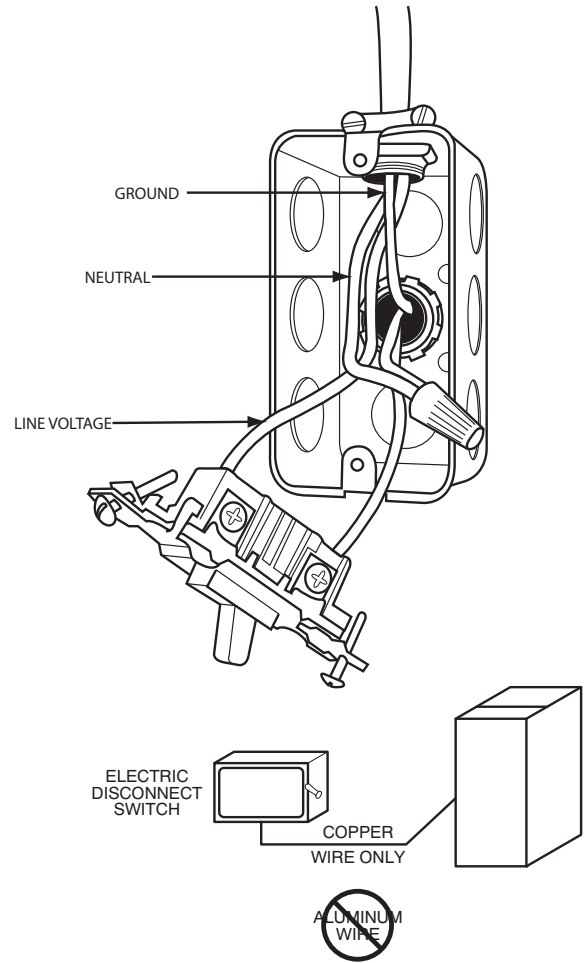

Fig. 34 - Field-Supplied Electrical Box on Furnace Casing
Do not connect aluminum wire between disconnect switch and furnace. Use only copper wire. See Fig. 34.
1. Fasten a field-supplied external electrical box to the outside of the casing by driving two field-supplied screws from inside electrical box into casing. See Fig. 34.
9. Complete external disconnect wiring and installation. Connect line voltage leads as shown in Fig. 34. Use best practices (NEC in U.S.A. for wire bushings, strain relief, etc., CANADA: Canadian Electrical Code CSA C22.1)